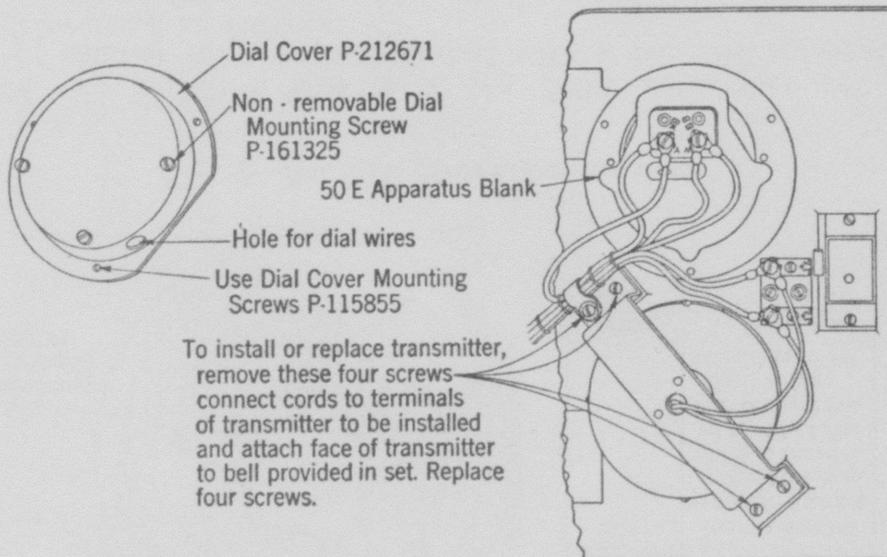

Fig. 9—Rear View of Inner Door No. 530A Set (Apparatus Blank in Place)
- (1) Open inner door of the set and disconnect the wires from terminals BK, Y, BB and W of the apparatus blank. See Fig. 9.
- (2) Remove the card holder from the apparatus blank, take out the two screws that hold the blank in place and remove the blank.
- (3) Install the dial cover P-212671 with the three screws P-115855.
5.02 Receivers and transmitters if defective shall be replaced with proper type as shown in Table 1 and specified in the approved transmission zoning practice. Refer to Fig. 9 in the case of a No. 530A or a No. 630A set.
loosening the three non-removable dial mounting screws shown in Fig. 9. Avoid damage to the dial finger wheel, handset, switchhook and other parts when opening the inner door of outdoor sets.